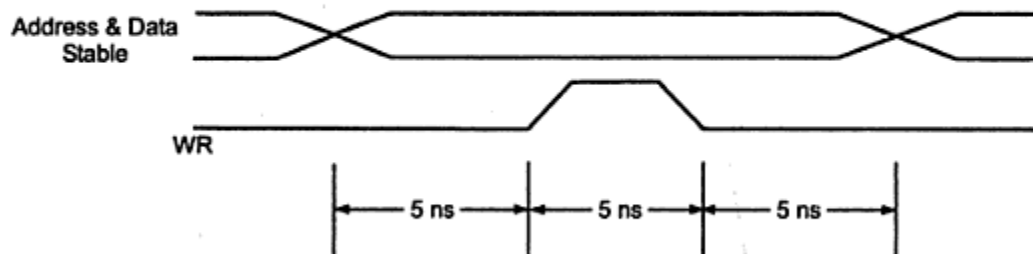

Fig. 9.17 Write timing
- Writing an SRAM requires a little care. The column write driver must not drive the Bit and nBit lines before the addresses stabilize. Fig. 9.17 shows the waveform required for writing into the SRAM.